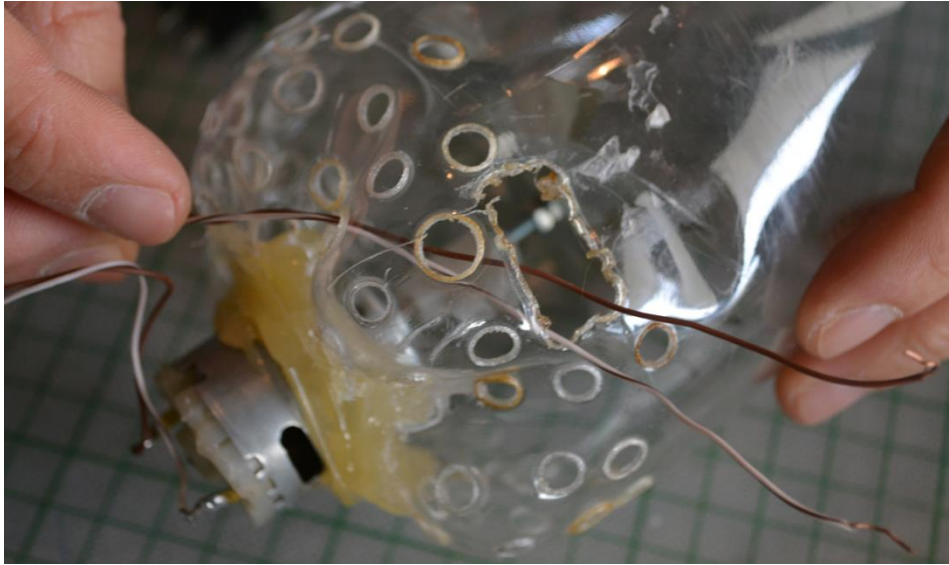

Figure 30
- Take both wires and slide them through one of the small holes at the bottom of the bottle. Then pass the wires through the large hole you opened in the previous step (the hole where the switch will be placed). See Fig. 30 for details.